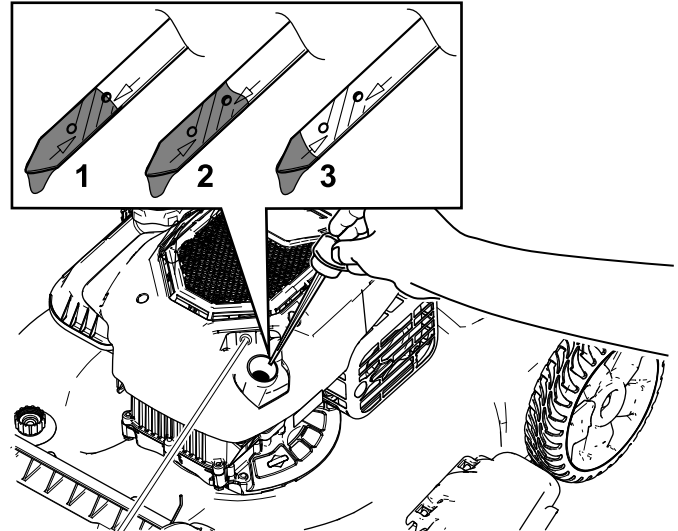

Figure 24
3. Remove the dipstick by rotating the cap counterclockwise and pulling it out (Figure 24).
10. Read the oil level on the dipstick (Figure 24).